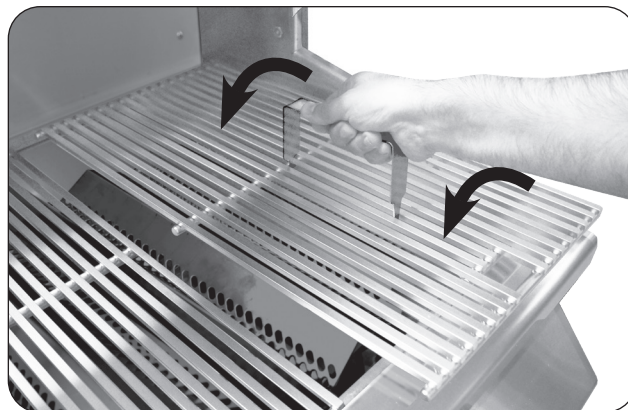

**Fig. 26-2** Install cooking grids
1. With the prongs facing downward, insert the notched-end of the lifter between two grid rods, then rotate, as shown in Fig. 26-2, A & B.
2. Insert the rear pointed-end of the lifter between the same two rods (see Fig. 26-2, B) and carefully lift the cooking grid and place onto the front and rear grid rests of the grill (see Fig. 26-3). Repeat for all other cooking grids.